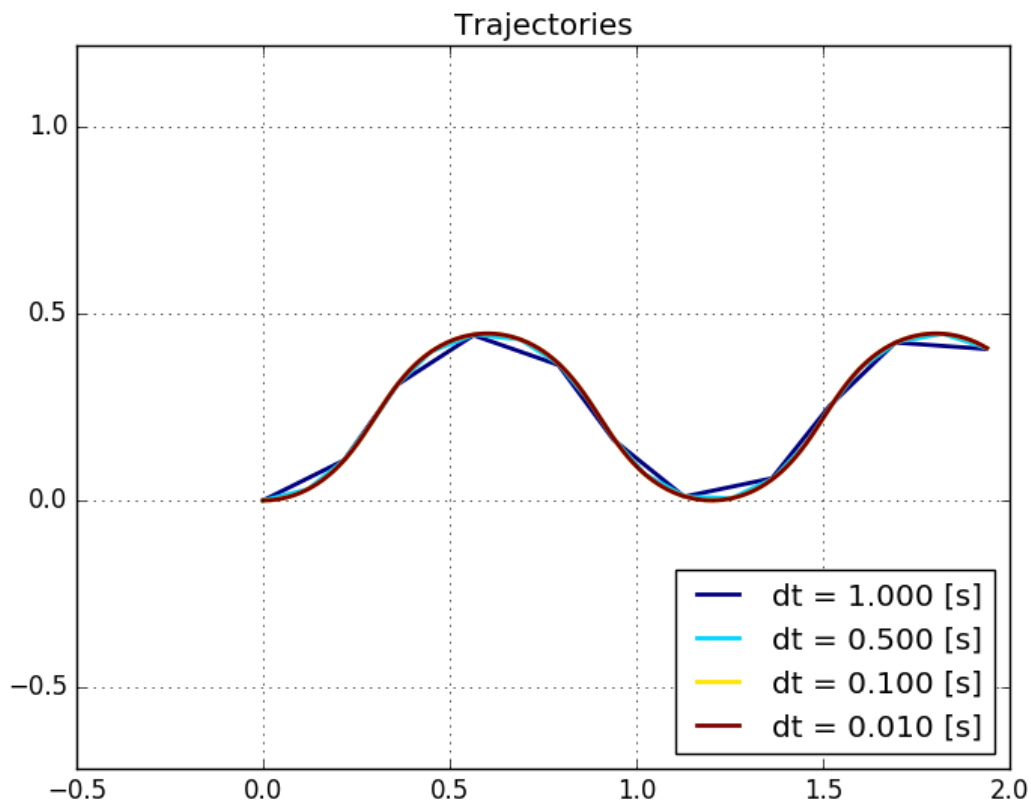

Figure 2: RK4
- (e) Figure 2 shows the plot using rk4 instead of Euler. There are several differences between RK4 and Euler. The main one is that Euler is a first order method, and RK4 is a fourth order method, so the error in Euler's method decreases on the order of $O(h)$, whereas RK4 is $O(h^4)$, where h is the step size. As the step size gets smaller, the error (difference to exact solution) using RK4 will decrease faster than when using Euler. Euler's method only looks at the single gradient taken at each point to construct a line parallel to the tangent at the curve, whereas RK4 looks at 4 gradients within the step size, and weights them to compute the next point. Taking into account this extra information allows it to converge to the solution quicker. Euler's method can produce acceptable results when the gradient of the curve does not change much, since the error will be smaller. Euler's method is also easier to code and will be quicker to run since it will have to do less calculations. However, it will need a much smaller step size than rk4 so it may not end up being as efficient.